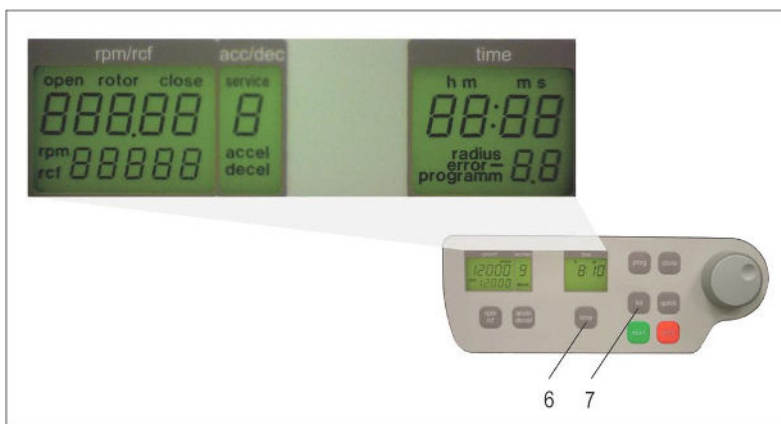

Figure 2
If the centrifuge is still turned off, press the keys, "time" (6) and "lid" (7) simultaneously, turning on the main switch of the centrifuge. Now release both keys. As a result, a display test is administered for approx. 5 seconds. All possible indications will appear at the same time (see Figure 2/Figure 2).